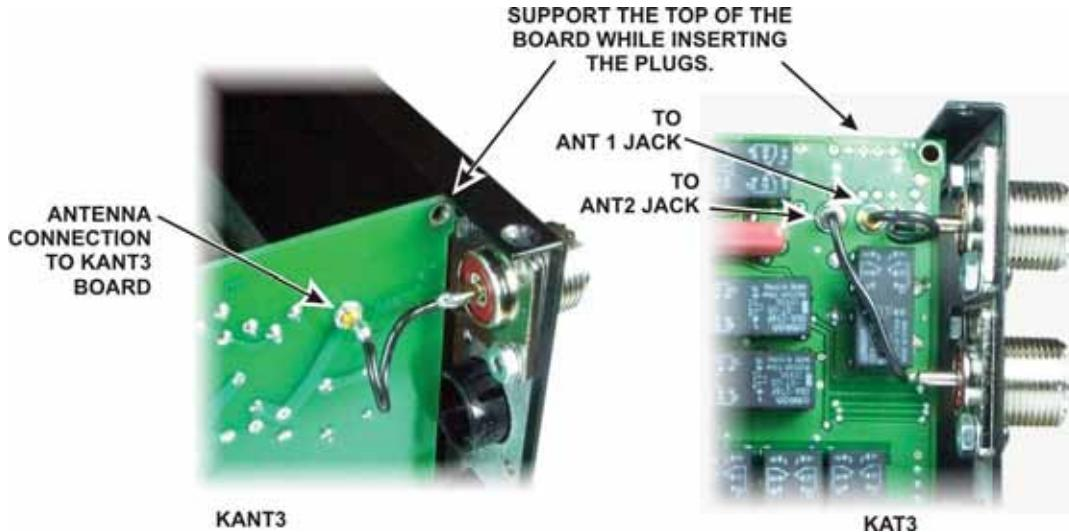

Figure 28. ANT Connections to KANT3 or KAT3 Boards.
- Connect the wires from the SO239 connector(s) to the KANT3 or KAT3 board as shown in Figure 28. Use needle-nose pliers to grip the terminals on the wire ends and carefully insert the connectors **straight** into the holes in the board. They may be very difficult to insert unless they are perfectly aligned. While inserting the plugs, support the board with your fingers to avoid putting stress on the connector at the bottom.